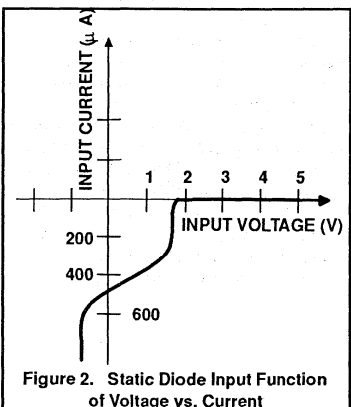

Figure 2. Static Diode Input Function of Voltage vs. Current
The static diode input function of voltage versus current is shown in Figure 2. If the pin voltage is negative, most of the relatively high negative current flows through the clamp Schottky D2. At 0V the current flows from V_{CC} through R1 and D1 to the pin. Switching from a logic Low level to a logic High level occurs when the input pin voltage rises high enough to force the current from the D1 path to the Q3-Q2-Q1 path. This happens when the base voltage of transistor Q3 is at three base-emitter drops (3V_{BE}), and the pin is at 2V_{BE}, which is the standard FAST threshold switching voltage. At this voltage the input current is very small, just the leakage currents of diodes D1, D3, and clamp diode D2. The current remains at this small, positive value until breakdown voltage is reached.
The current of Figure 2 is scaled for the case where the pin is required to pull down a single 10KΩ resistor R1 (20μA maximum in the High state and 0.6mA maximum in the Low state), which is defined as a standard FAST Unit Load (UL). For some parts, pin current can exceed a UL, especially in the logic Low state. This will happen if the pin must sink the current from more than one R1 resistor, or if the value of R1 is less than 10KΩ, which will be the case if the capacitance at the base of the transistor Q3 is too large for the required switching speed. In this event, the actual number of ULs is listed for each input in the specification sheet for the part. Note: UL, as defined here, is less than the normally defined Schottky TTL Unit Load. The correlation is one Schottky Unit Load – 1.67 ULs. This is an important point to remember for fan-in and fan-out calculations in systems that mix FAST with other TTL families.
There are some significant differences between this function and that of the diffusion diode input shown in Figure 2, the most important being the much lower input current in the region from 0V to threshold and the controlled increase of input current above V_{CC} .